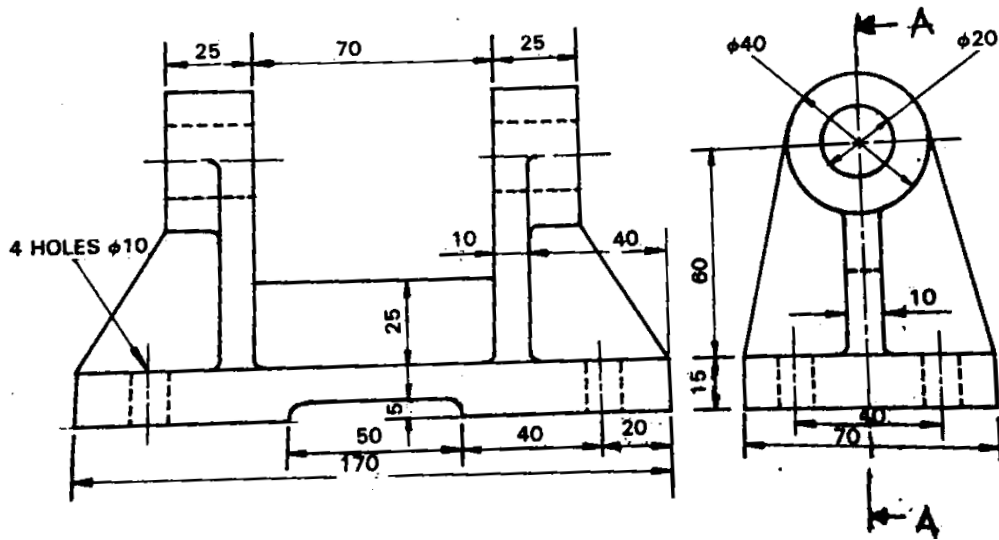

Figure 1
11. **Figure 1** shows orthographic views of a block drawn in first angle projection.